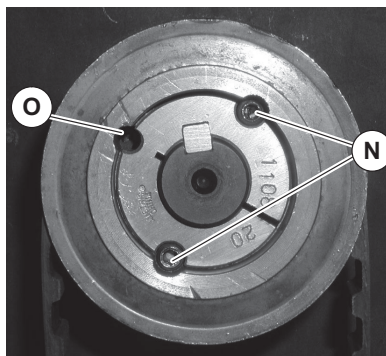

Figure 15
- b. Loosen taper set screws (Figure 15, item N) on the driven pulley. Remove one set screw and insert in open hole (O). Tighten until pulley slides off drive shaft.